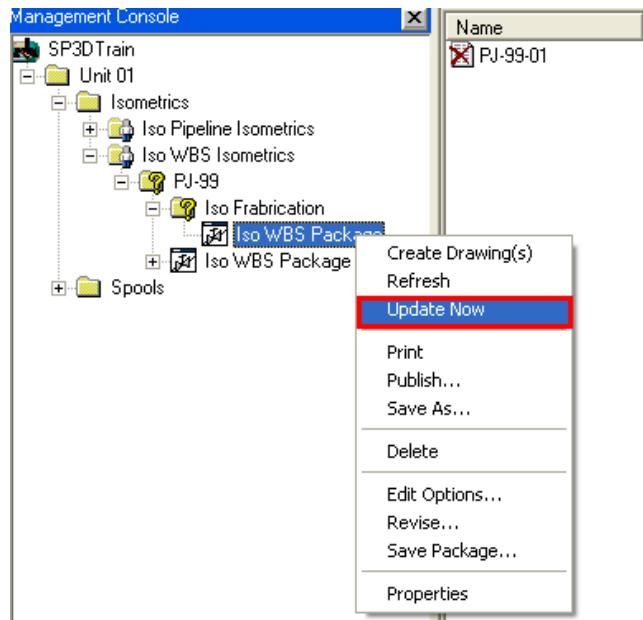

Figure 17: Updating the Drawing Documents Created from WBS Items
21. Right-click the **Iso WBS Package** isometric drawing type and click the **Update Now** option, as shown in Figure 17, to update the drawings for the WBS group.